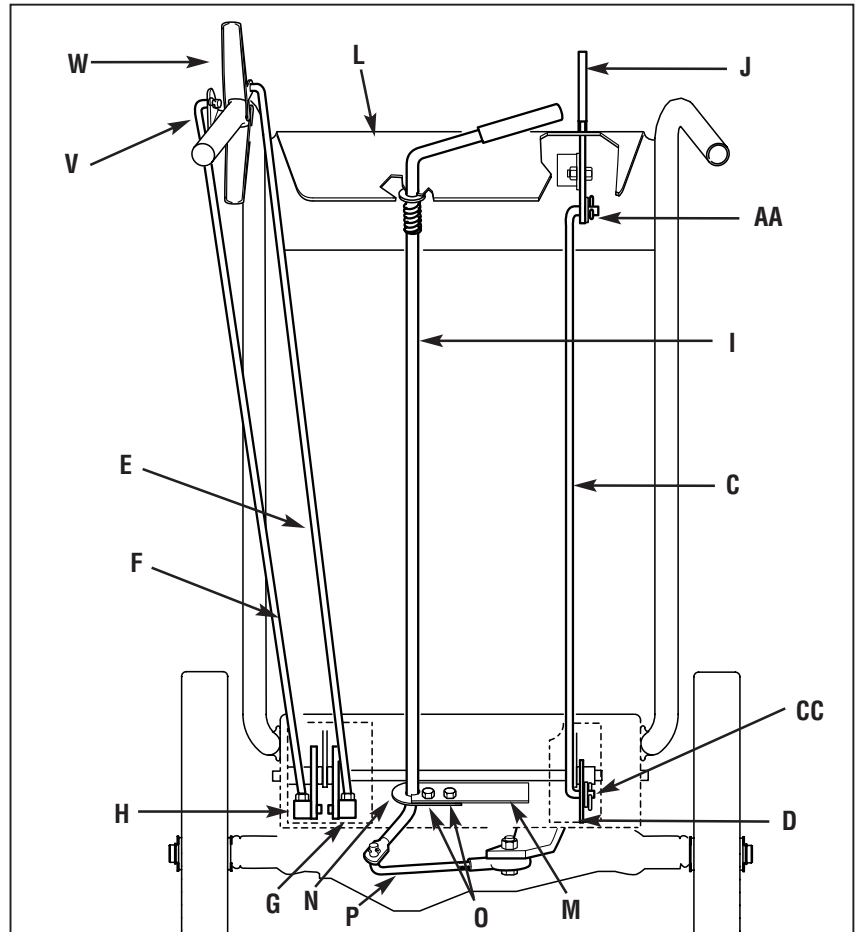
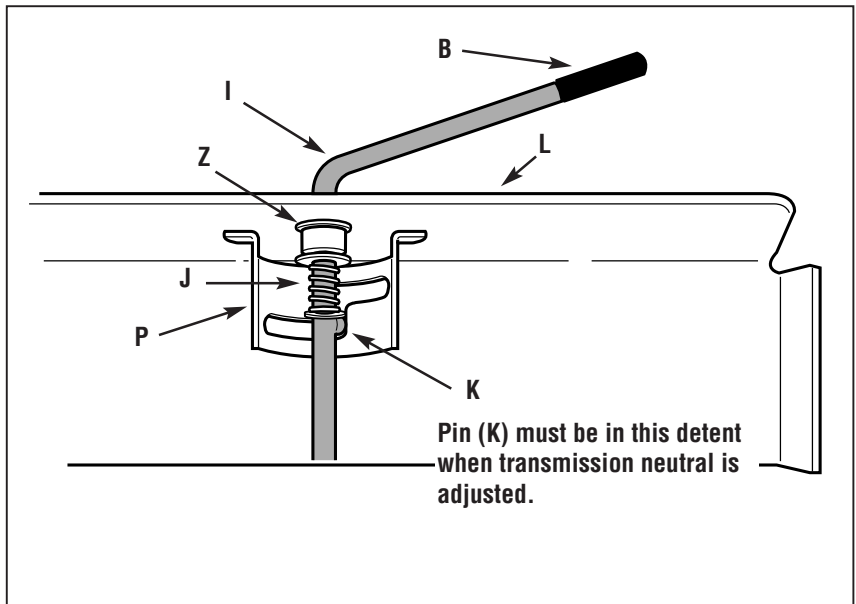
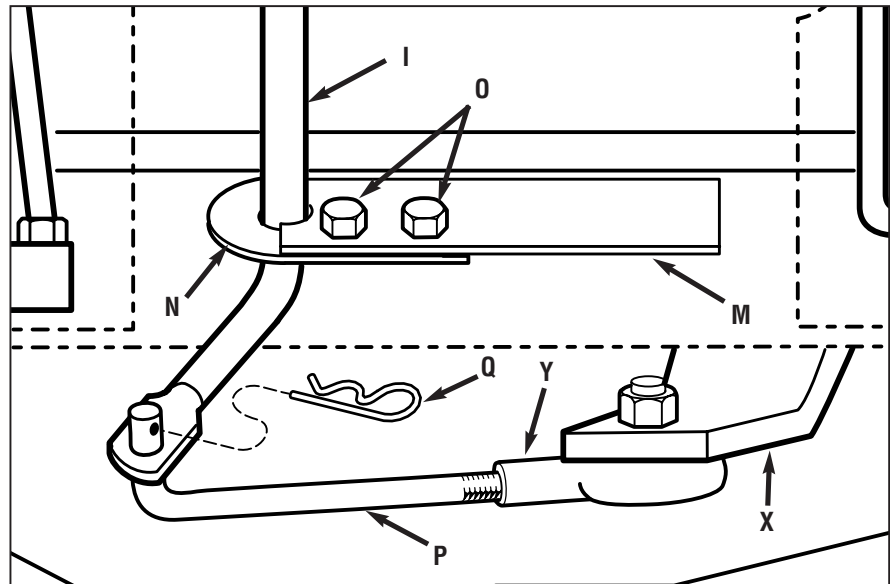

Figure 2-5: Rear view of control rods.
Figure 2-6: Detail - Gear Select Lever in Neutral (N) position.
Figure 2-7: Detail – Transmission Neutral Adjustment.
1. Locate the blade drive control rod (C, Figure 2-5). Insert one end of control rod into blade drive bracket (D, Figure 2-5). Add one 5/16" washer and attach with hairpin clip (CC).
2. Insert the other end of rod into bottom end of Blade Drive Control lever (J, Figure 2-5). Add one 5/16" washer and attach with hairpin clip (AA).
NOTE: The retaining plate (N, Figure 2-5) mentioned in the following steps is secured to the rear of the mower with two screws (O, Figure 2-5) and 1/4"-20 lock-nuts. Remove the retaining plate and save it, along with the two screws, before proceeding with assembly.
1. Remove the vinyl grip (B, Figure 2-6) from the gear select lever (I). Place the wood edge against the edge of the grip and slowly pull off the grip.
2. Insert nylon bushing (Z, Figure 2-6) up into console (L).
3. Slide spring and washers (J) down onto gear select lever.
4. Insert gear select lever (I) up through nylon bushing (Z) in handlebar console (L). Guide pin (K) on gear select lever into groove in shift quadrant (P).
5. Hold lower part of gear select lever (I, Figure 2-7) against bracket (M). Position retaining plate (N), removed earlier, as shown in Figure 2-7 (plate below bracket). Secure plate with two 1/4"-20 x 1/2" screws (O) and 1/4"-20 locknuts removed earlier.
6. Slide grip (B, Figure 2-6) back onto gear select lever (I).
7. Rotate gear select lever (I, Figures 2-6 & 2-7) clockwise until spur (K - short rod) on gear select rod stops in the neutral position detent on the shift pattern quadrant (Figure 2-6).
8. Move shift arm (X, Figure 2-7) from side to side as necessary into each transmission gear detent until transmission is in neutral.
NOTE: Moving shift arm (X) all the way to the left, and then one notch back to the right, should put transmission into neutral. When transmission is in neutral, unit will move freely when pushed while holding the Operator Presence Control lever (W, Figure 2-5) down. If transmission is NOT in neutral, there will be a slight drag on the wheels when pushing unit.
9. When shift arm (X) is in neutral position, rotate shift link (P) toward end of gear select lever rod (I). Adjust length of shift link (P) as necessary to fit into hole in bottom of gear select lever (I).
NOTE: Pin (K) on Gear Select Lever (I) must be held in the neutral position detent on the shift quadrant (see Figure 2-6) while shift link (P, Figure 2-7) is adjusted.
10. Insert hooked end of shift link (P, Figure 2-7) into hole in bottom end of gear select lever (I) and secure with hairpin clip (Q).
11. Remove unit from shipping crate. To remove, hold down Operator Presence Control lever (W, Figure 2-5) which releases the wheel brake.
12. With unit on level ground, hold down Operator Presence Control lever (W, Figure 2-5) and push unit forward and backward. The wheels should move freely. If not, adjust length of shift link (P, Figure 2-7) as necessary.
13. Put the Gear Select Lever in neutral (N), release all of the control levers and try to push the unit forward and backward. The wheels should not turn. If they do turn, an adjustment is necessary. **DO NOT OPERATE THE UNIT UNTIL THE WHEEL BRAKE MECHANISM HAS BEEN ADJUSTED AND IS WORKING PROPERLY.** See "Wheel Brake Adjustment" in Section 5 "Maintenance."
1. Move mower to a level area. Press and hold Operator Presence Control lever (W, Figure 2-5) to move mower.